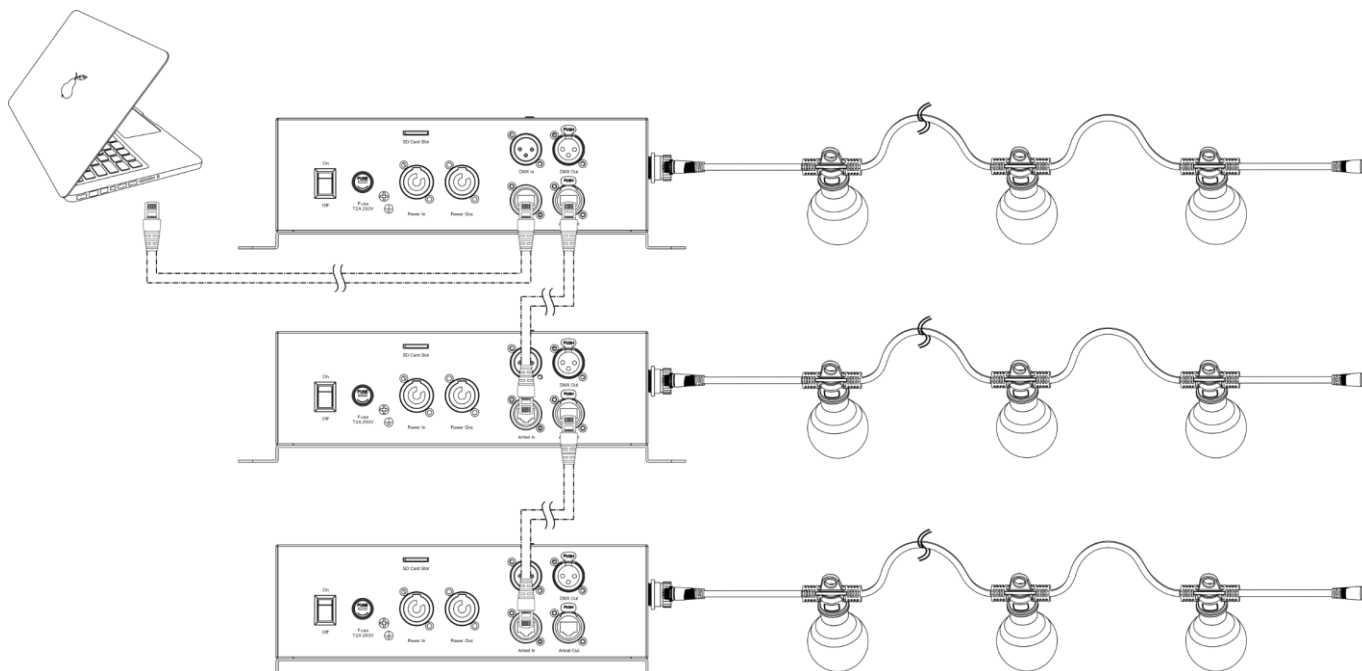

Fig. 08
- 05) Link the units as shown in Fig. 08. Connect the first unit's RJ45 "out" socket with the second unit's "in" socket, using a CAT-5/CAT-6 cable. Repeat this process to link the rest of the units.